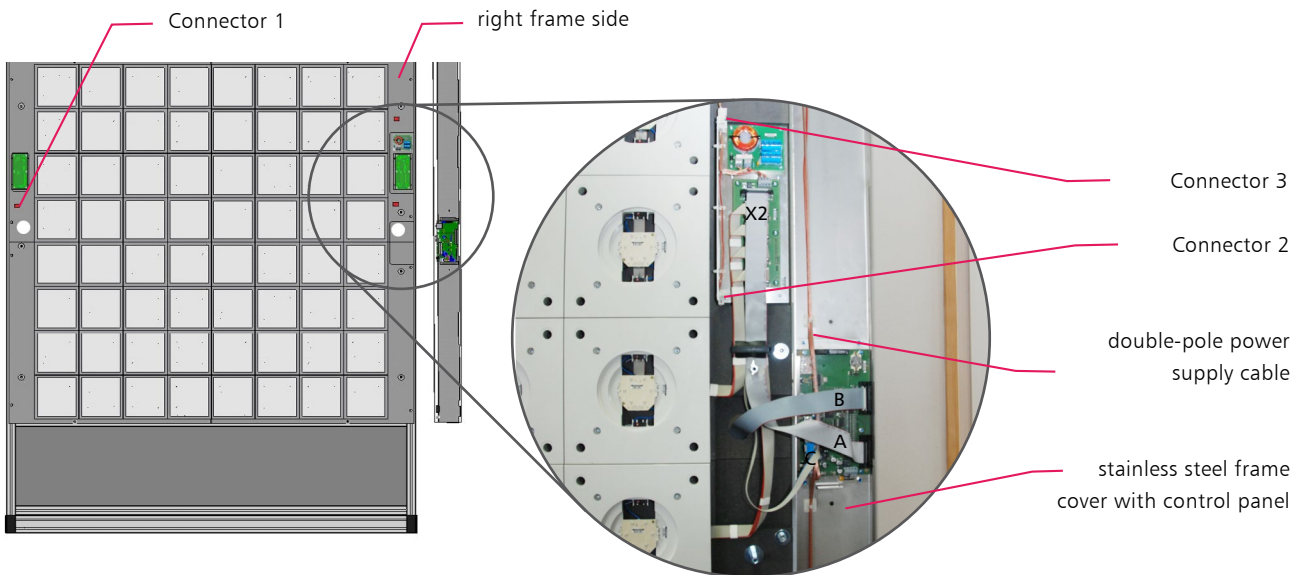

fig. 3.1-36
Step 27: Now connect the power supply for the basic modules. For connector positions please see **fig. 3.1-36**. At first, connect connector 1 (upper left basic module) to connector 2 (upper right basic module below the manifold PCB). Following, connect connector 3 (upper right basic module above the line filter) to the control panel in the stainless steel frame cover **B2**.